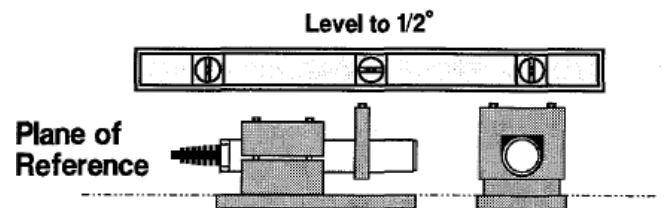

Figure 10. KIS Module Level Considerations.
(2) **Mounting Base Surface Preparation:** The mounting base of the weigh module must be uniformly supported and level (Figure 10). On a structural steel support using through bolts, or a concrete pad using studs, the bolt spacing should be accurate to within 0.05 in. of the bolt pattern specified in the outline drawing dimensions (Figures 7, 8, or 9). Grade 8.8 (or stronger) studs or bolts must be used. Do not weld the weigh modules in place.